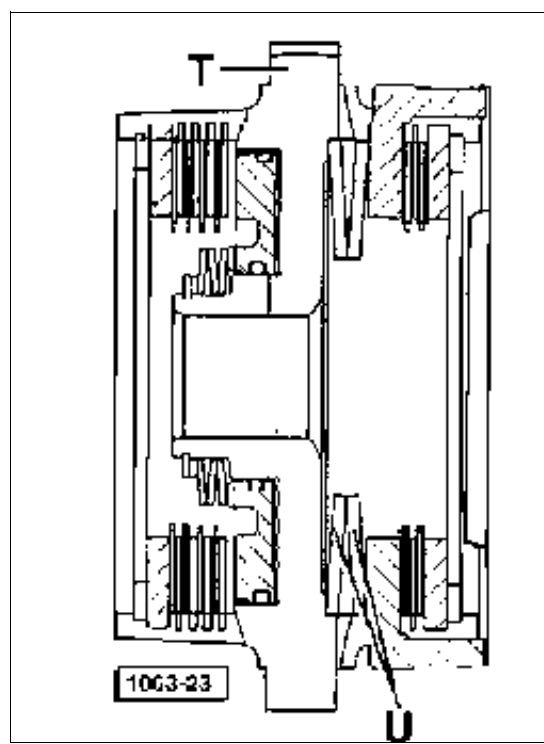

Fig. 10 - Preassembly of MEDIUM-LOW clutches MEDIUM-LOW.
- Working at the bench, preassemble the friction discs of the MEDIUM - LOW housing **T** p/n 007.6744.3 (fig 10). Align the discs initially using the housing itself as a reference, then compress the belleville discs **U** p/n 2.1499.127.0.